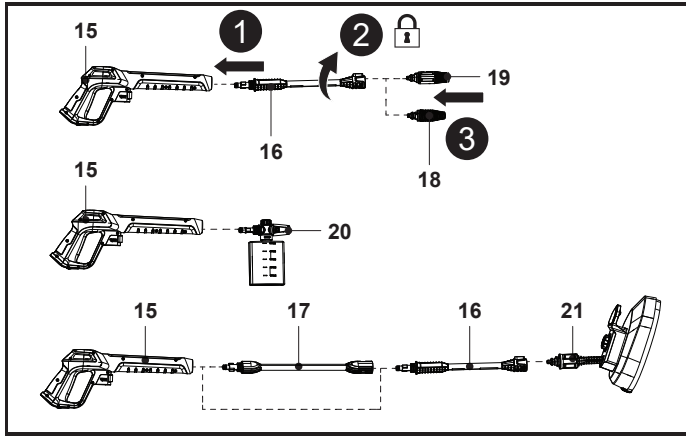

Fig. 5
1. Align and insert the extension lance (16) into the socket of the spray gun (15) (Fig. 5, step 1).
2. Push and turn the extension lance (16) clockwise onto the spray gun (15) until hand tight to lock it in place (Fig. 5, step 2).
3. Align the two nozzle taps with the slots of the extension lance (16), then insert the turbo nozzle (18) or variable nozzle (19) until the end (Fig. 5, step 3).
4. Align the two taps of detergent bottle nozzle (20) with the spray gun (15), then push and turn the detergent bottle nozzle (20) clockwise onto the spray gun (15) until hand tight to lock it in place.
5. You can assemble the patio brush (21) on the extension lance (16), then assemble the combination directly onto the spray gun (15) or through the extension pole (17).